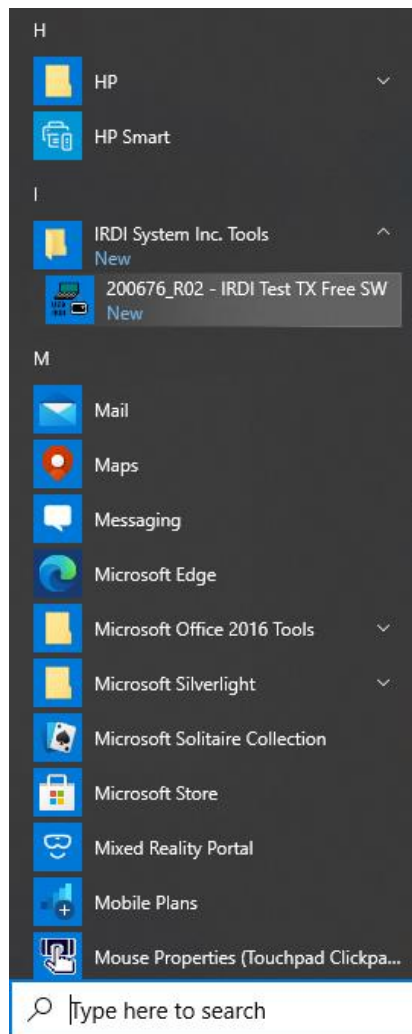

FIGURE 4-13 SOFTWARE SHORTCUT IN START MENU
STEP 1	Windows Start > IRDI USB Direct Tx > 200676_R02 Test TX Free Software – see Figure 4-13.